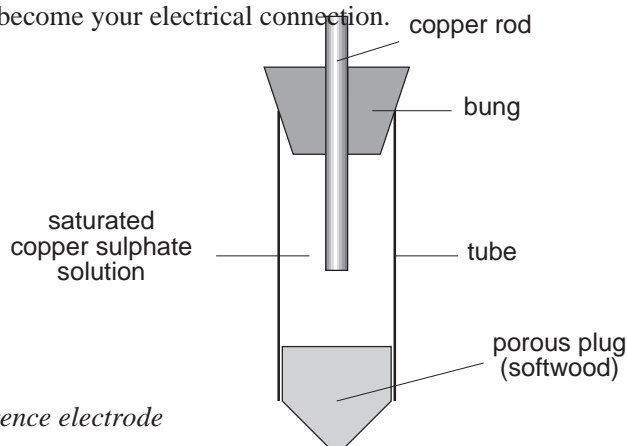

Figure 2. Reference electrode
- copper/copper sulphate or other reference electrode (see Figure 2) **Hazard: do not swallow or allow to get into the eyes**
You need a 'reference' electrode for this study. This provides a half-cell potential which is unaffected by the concentration or composition of the electrolyte. A reference electrode may be available already. However, it is quite easy to make your own (see Figure 2 on the next page).